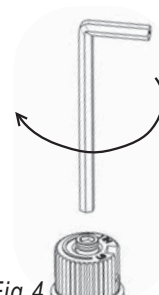

Fig. 4
13) Using the Allen wrench as shown in Fig.4, rotate the screw clockwise until snug, do not overtighten.